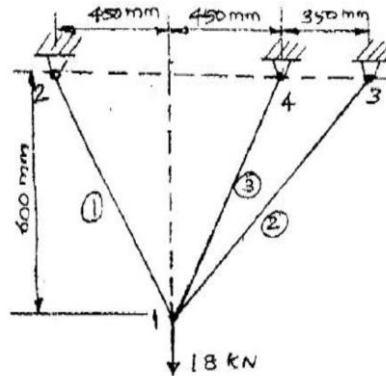

Figure. 2
- 2.a) For the three-bar truss shown in Figure. 2, determine the displacements in node 1 and the stress in element 3. Take $A=250 \text{ mm}^2$, $E=200 \text{ GPa}$. (8M)